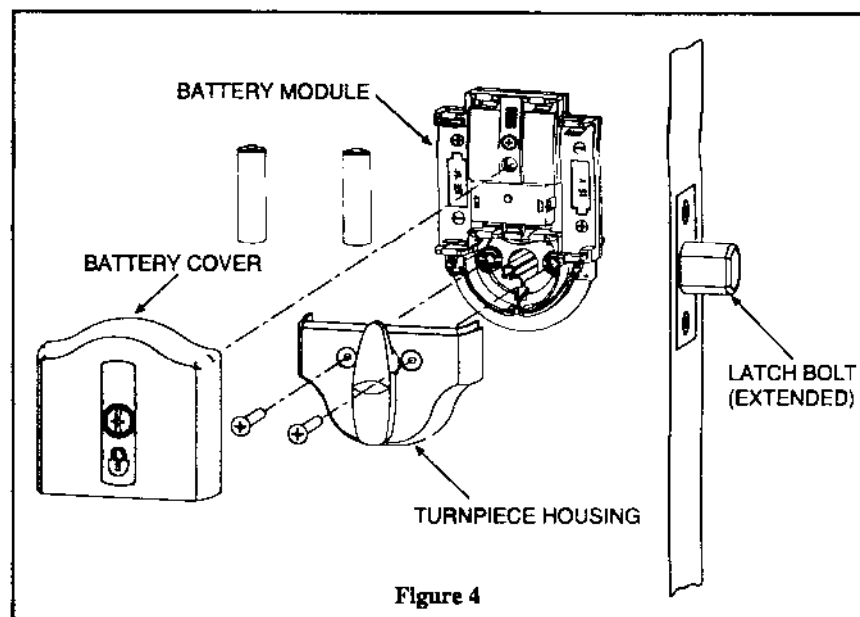

Figure 4
10. Attach turn piece housing to the battery module using two 8-32x1-1/4" long screws. The turn piece must be in a vertical position (latch bolt extended) to gain access to screw holes. See Figure 4. Make sure excess wires clear screw holes and shaft before tightening screws. Make sure wires are not pinched.
12. Attach the battery cover to the battery module using the self-contained mounting screw. (See Figure 4). Do not overtighten